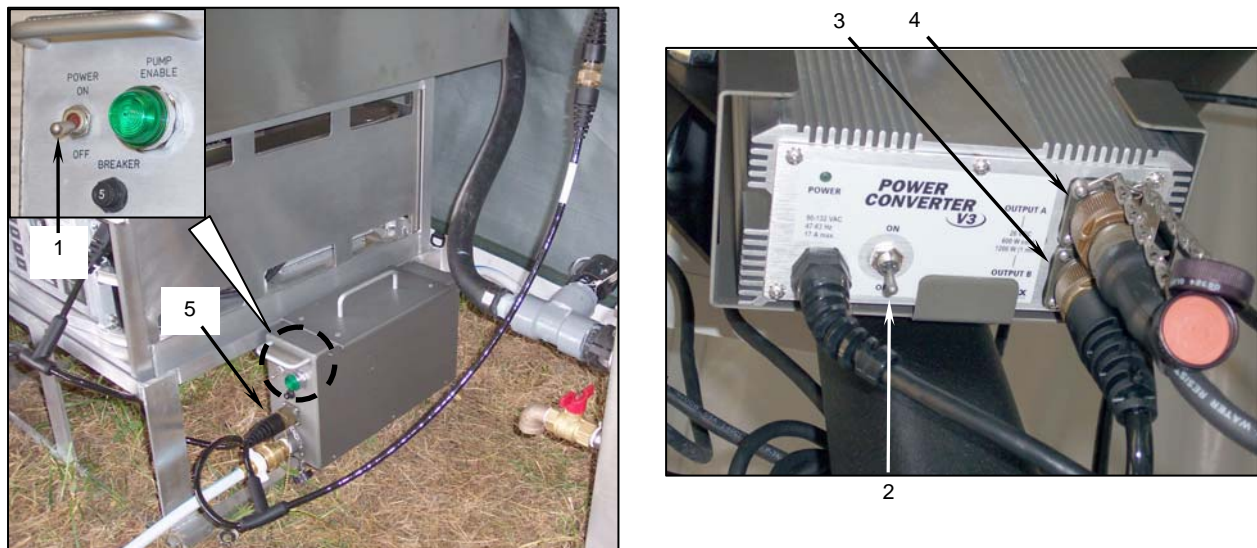

Figure 2. Removing Power from the Sink Fill Pump Assembly.
- b. Switch off the sink fill pump assembly power switch (**Figure 2, Item 1**).
- c. Switch off the power converter power switch (**Figure 2, Item 2**).
- d. Disconnect both DC cables (**Figure 2, Item 3**) and (**Figure 2, Item 4**) from the power converter and cap the connectors.
- e. Disconnect the two-branch power cable (**Figure 2, Item 5**) from the sink fill pump assembly and cap the connector.